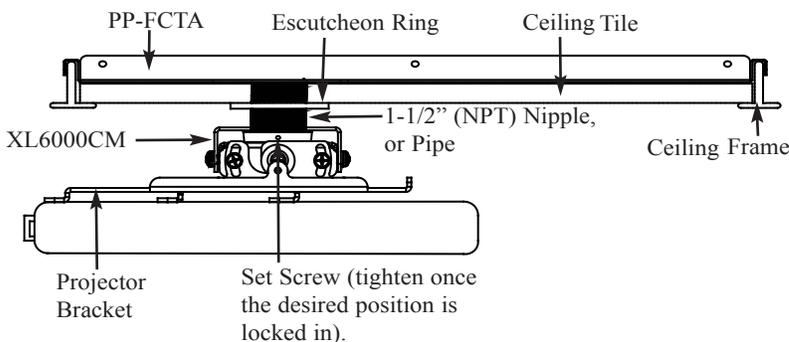

Figure 7
1. Secure the 1½" (NPT) nipple to the ceiling plate and secure the nipple or (custom length of 1½" NPT pipe) by using one (1) M5 x 16 Phillips head screw (supplied) to the stud plate (Figure 7).